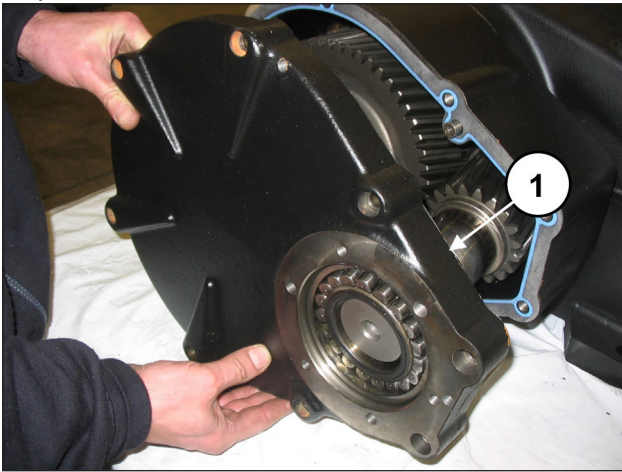

Fig. 67
Mount the reduction gear cover (pos. ①, Fig. 67) and fasten it with 8 M10x50 screws (pos. ①, Fig. 68). Use a buffer to prevent the bearing from being able to come out of its seat (pos. ①, Fig. 69).